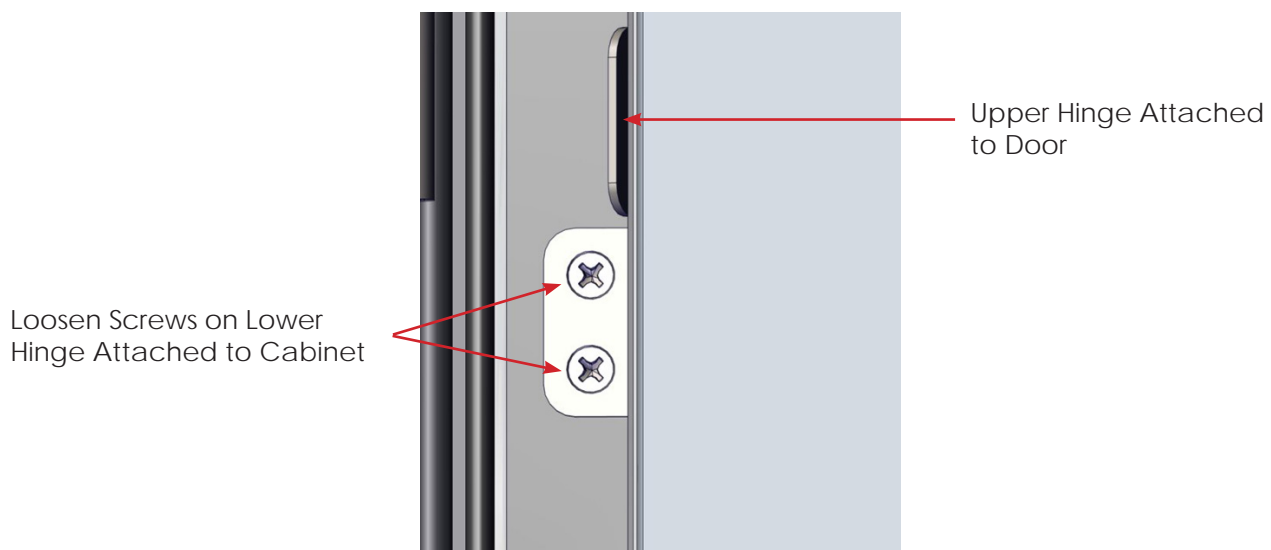

Fig. 21: Loosen Hinge Screws
1. Open one door fully and loosen the screws on the hinges that attach to the sides of the cabinet (two screws per hinge) (Fig. 21).